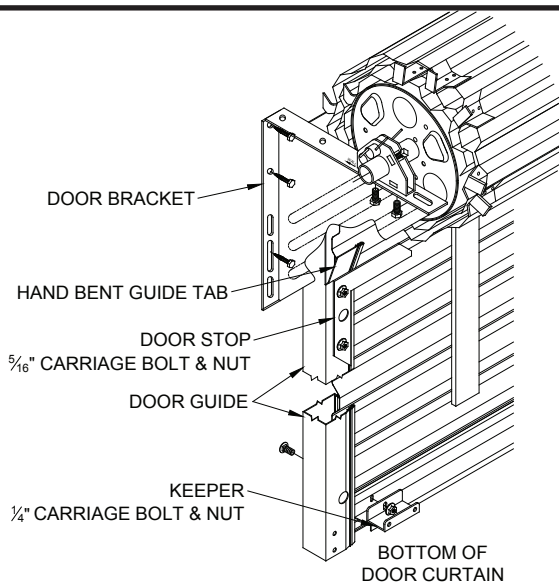

Figure 14.
8.3 Attach the two keepers to the bottom interior edge of the door using the installed 1/4" carriage bolt and whiz nut. (Figure 14)
8.4 Tighten door stops installed in paragraph 8.1 making certain track bolts are seated in guides. (Figure 14)